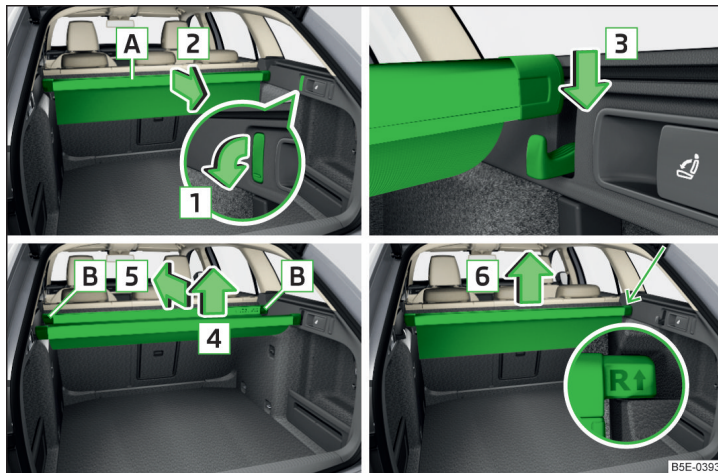

Fig. 139 Multi-function pocket: pulling out/inserting/pushing in/removing
- › Fold down the front hooks on both sides of the luggage compartment in the direction of arrow **1** » Fig. 139.
- › Remove the rear bar from the hooks in the direction of arrow **4** and push in the pocket in the direction of arrow **5** » Fig. 139.
- › Remove the pocket from the fittings in the direction of the arrow **6** » Fig. 139.